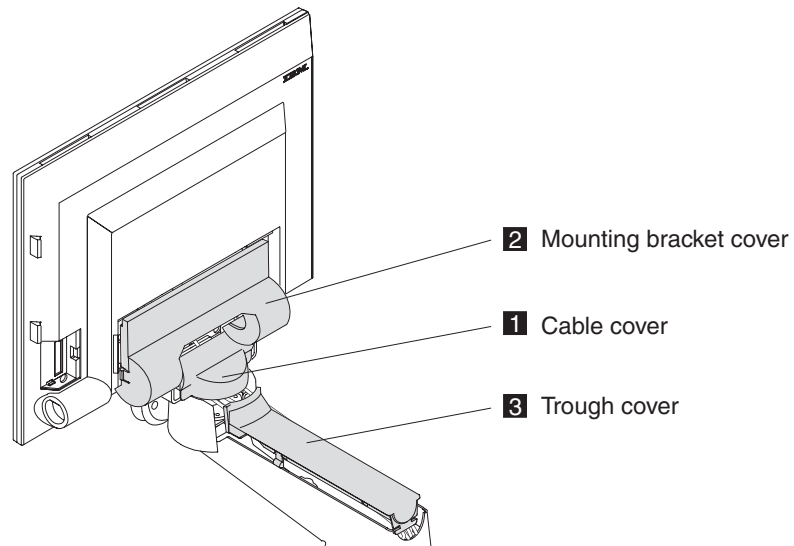

Figure 2-17. Distributed pedestal covers
- a. See **1** in Figure 2-17 on page 2-13. Attach the cable cover to the mounting bracket, snapping the tabs on the sides of the cover into the small holes on the sides of the bracket.